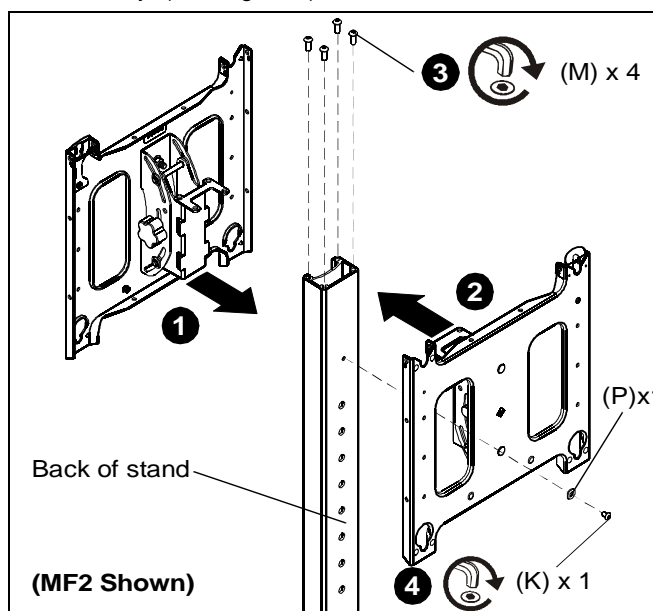

Figure 8
1. Place head assembly (D) or (E) on the front of the stand assembly. (See Figure 8)
2. Place second head assembly (D) or (E) on the back of the stand assembly, and on top of the front head assembly. (See Figure 8)
3. Use four 5/16-18 x 3/4" button head cap screws (M) to fasten through both head assemblies. (See Figure 8)
4. Fasten through back head assembly and back of stand assembly using one 1/4-20 x 3/8" button head cap screw (K) and one 1/4" washer (P). (See Figure 8)